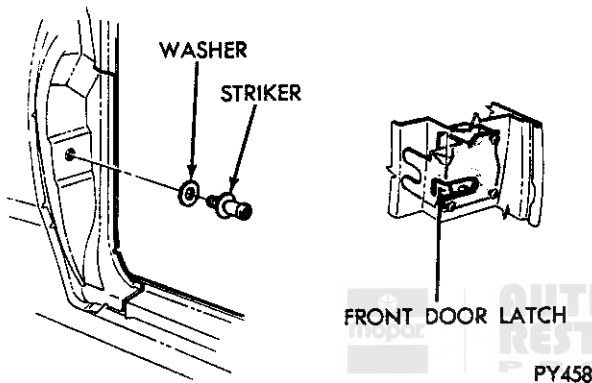

Fig. 16—Door Latch Striker Adjustment
DOOR LATCH STRIKER ADJUSTMENT (Fig. 16)
- (1) Check all doors for contour and spacing, and all door lock strikers for proper relation to locks. Fit and readjust as follows:
- (2) Open doors.
- (3) Loosen door latch striker (Fig. 16).
- (8) Tighten and retorqued striker to 40 to 60 foot-pounds (Fig. 16).
- (9) Close doors.